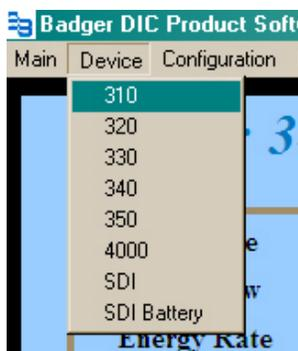

Figure 10: Select 310
5. Open the program and from the **Device** option in the menu bar, select **310** as shown in *Figure 10*.